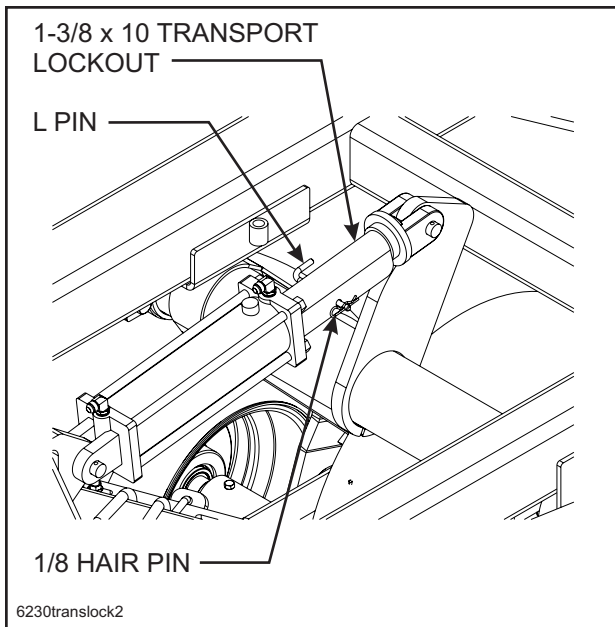
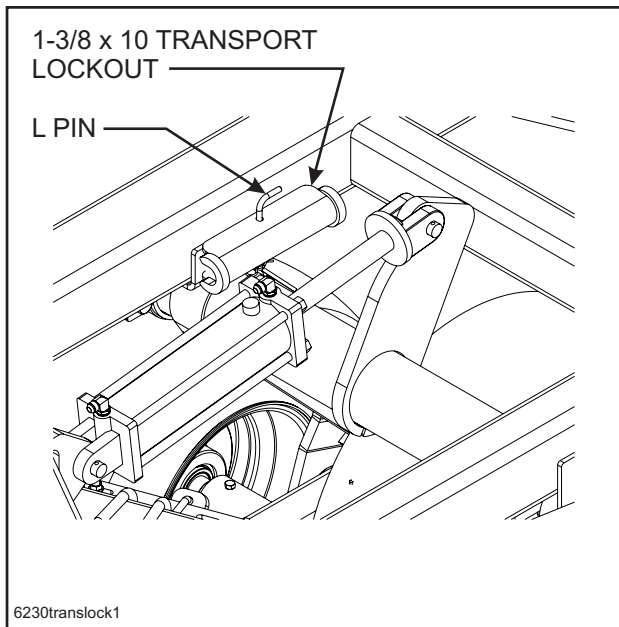

Figure 4-3 Installed Transport Locks
Figure 4-4 Stored Transport Locks
4-4.2 The hydraulic system is not filled with oil and should be purged of air before transporting and field operations. Carefully hitch the disc to the tractor and connect the hydraulic lift hoses. Check to make sure the tractor hydraulic reservoir is full of the manufacturer's recommended oil. Slowly raise the machine, and continue to hold the hydraulic lever until all lift cylinders are fully extended. With all cylinders fully extended remove the 1-3/8 X 10 transport lockouts (**See Figure 4-3**). Store transport lockouts as shown in **Figure 4-4**. Lower and raise the unit to verify that all cylinders are working simultaneously throughout the stroke. If the cylinders are not working evenly or together, fully extend the lift cylinders and continue to hold the lever to purge any remaining air. Do not loosen any hoses or fittings. Recheck tractor reservoir to make sure it is within operating limits.
- 4-7.1** Raise the unit to take the weight off of the transport locks. Remove the transport locks from the lift cylinders (on the main frame only). Store the transport locks on the retainers above the main lift (**See Figure 4-4**).